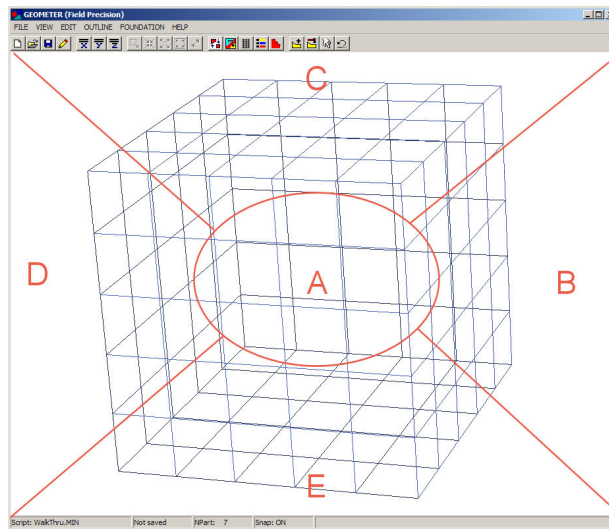

Figure 31: Active areas for mouse control of the 3D view.
The method to control the three-dimensional display with the mouse is the same as that in **MetaMesh**. Figure 31 shows the active areas of the screen. The cursor changes as you move between zones. The central zone (A) is used for zooming in (left button) and out (right button). Hold down the left mouse button in zones B, C, D and E to walk around the object. Hold down the right mouse button in zones B, C, D and E to move the viewpoint to the right, upward, to the left and downward. Note that changes are reflected in the orientation box in the upper-right portion of the screen. The plot is updated when you release the mouse button. You can control additional aspects of the three-dimensional view with the commands of the *Adjust view* popup menu.